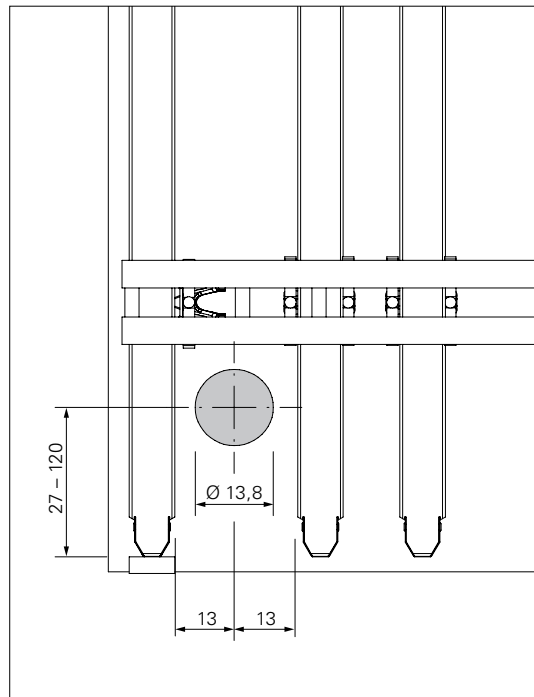

Fig. B.01
1. Mark out the drilled hole pattern according to Fig. B.01.